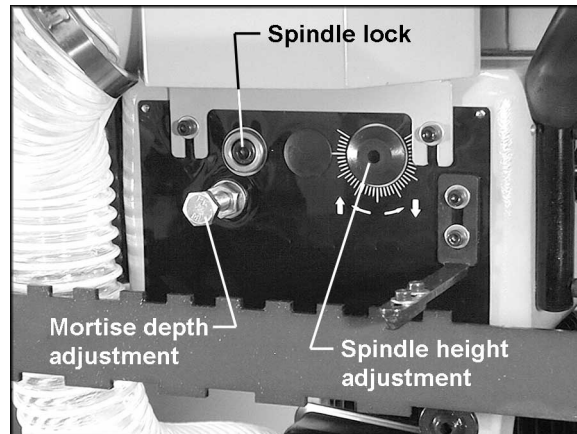

Figure 23
2. Loosen the spindle lock screw (Figure 23) by turning it counterclockwise with a 6mm hex wrench.
3. Turn the spindle height adjustment screw (Figure 23) with a 5.5mm hex wrench, either clockwise to raise the cutter (increase the cutter depth), or counterclockwise to lower the cutter (decrease the cutter depth).
The mortise depth adjustment bolt, shown in Figure 23, limits how far forward the headstock will go, and thus limits the length of your mortise cut.
2. Loosen the hex nut on the mortise depth adjustment bolt (Figure 23) by turning the hex nut counterclockwise with a 17mm wrench.